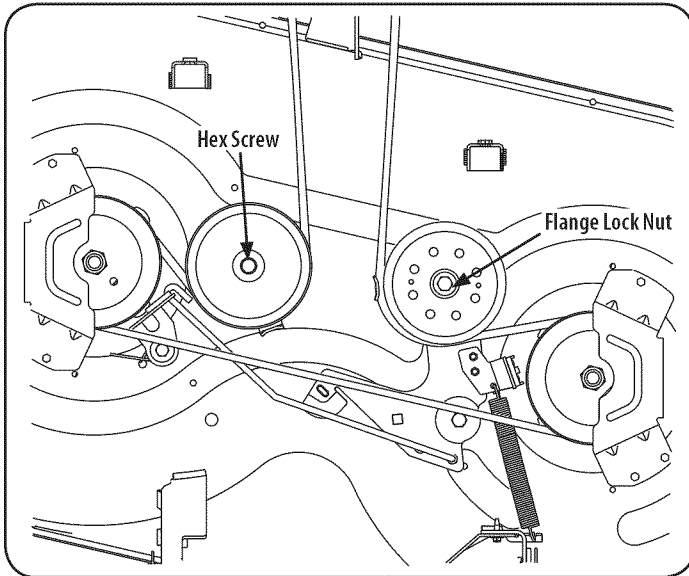
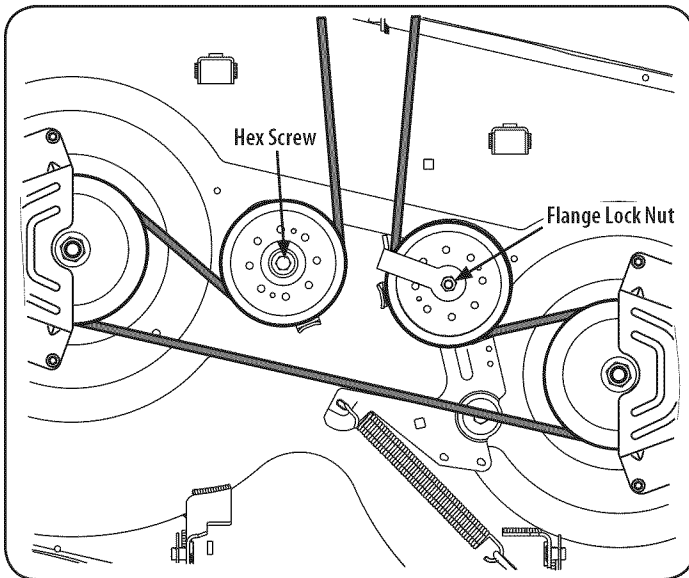
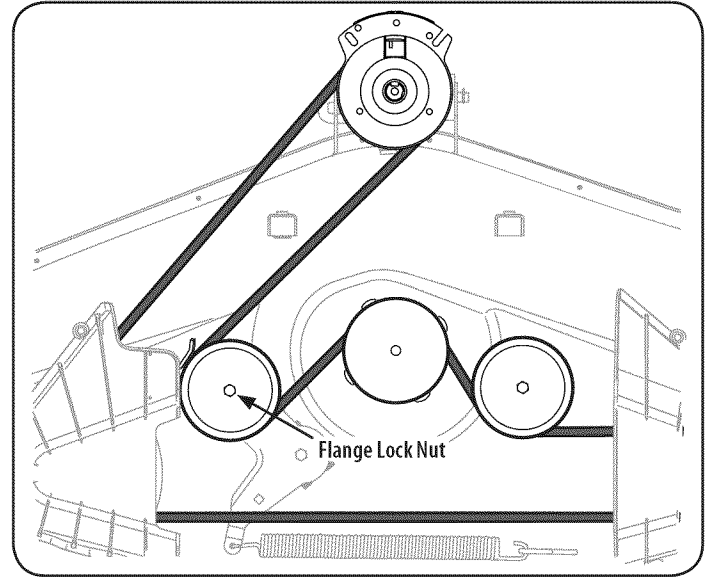

Figure 30
Figure 31
Figure 32
- Loosen, but do not remove the flange lock nut on the left idler pulley for 50" and 54" Decks and the right idler pulley for 42" and 46" Decks. See Figure 30 for 42" Decks, Figure 31 for 46" Decks and Figure 32 for 50" and 54" Decks.